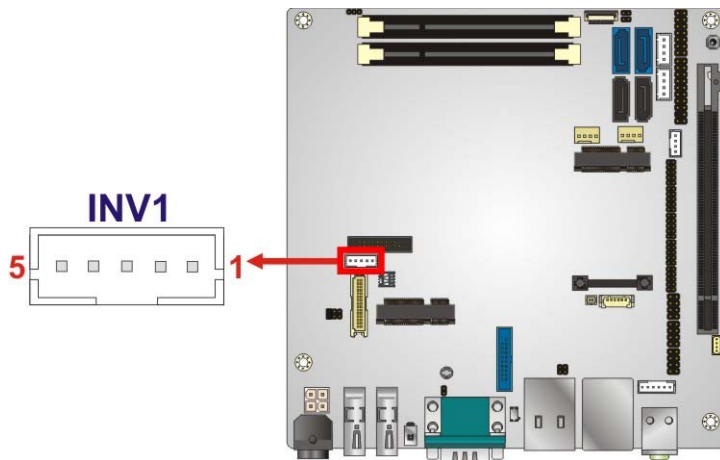

Figure 3-16: LVDS Backlight Inverter Connector
- CN Location:** See **Figure 3-16**